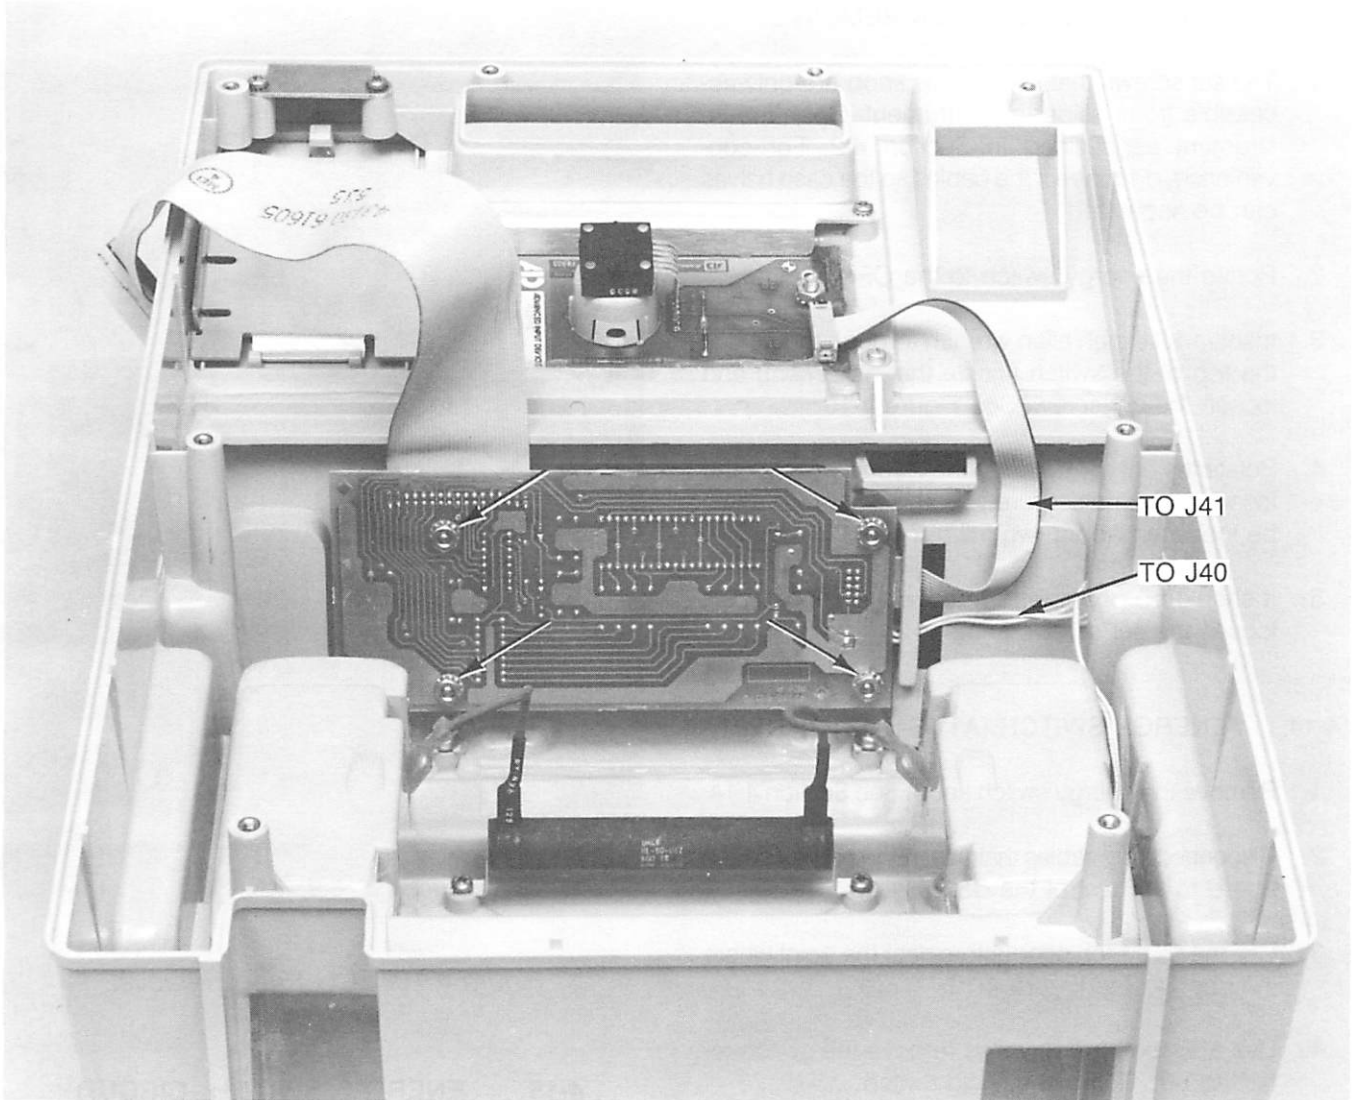

Figure 4-9. Display Board Replacement.
3. Remove the 4 nuts indicated by the arrows in Figure 4-9.